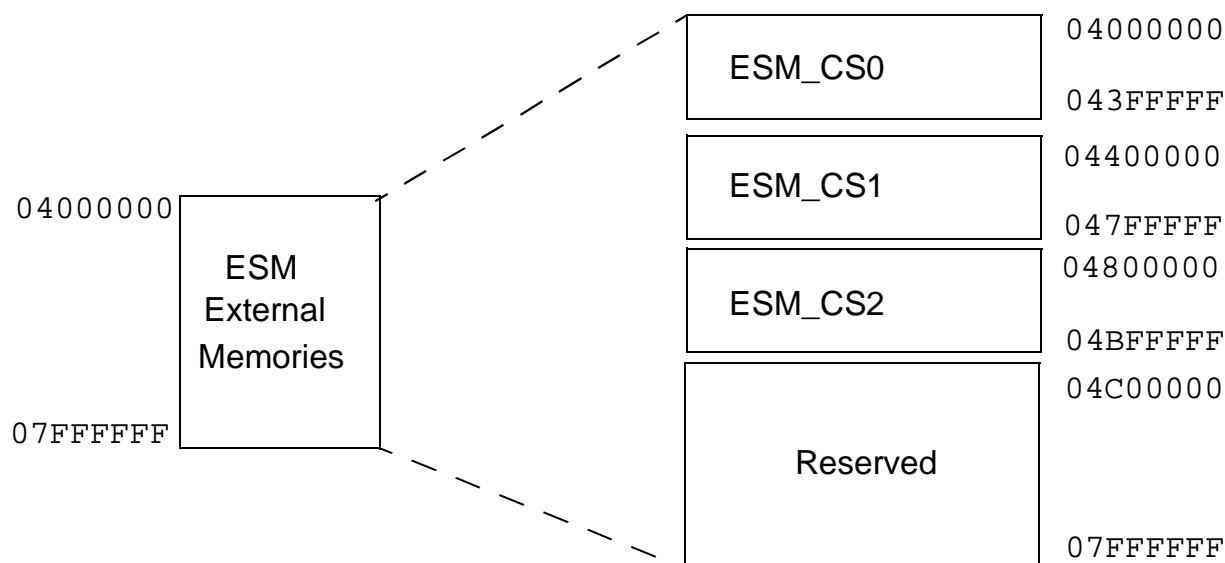

Figure 4: ESM memory map
- The external memory spaces are mapped by the ESM interface as reported in Figure 4.